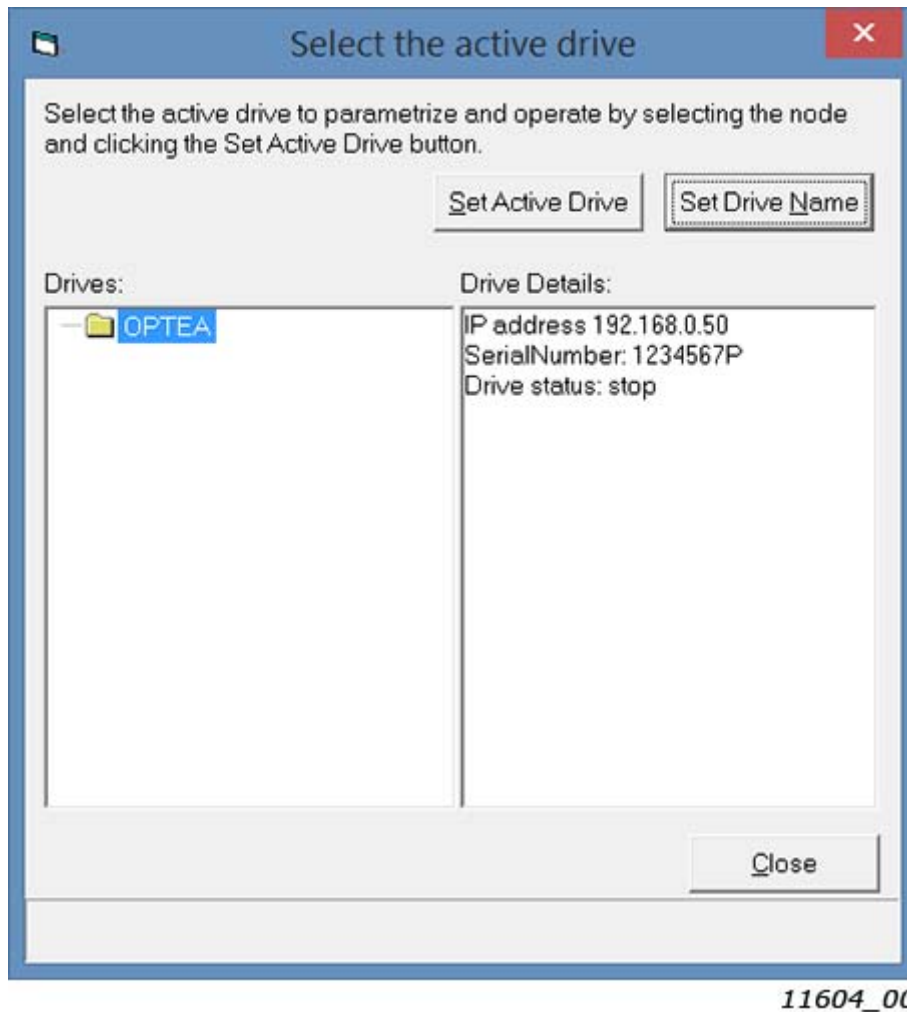

Figure 26. NC Drive: Active drive selection
**Step 3.** In the "Select the active drive" dialog (see Figure 26), select the drive you want to connect to. Then press the "Set Active Drive" button. Now you can close the dialog.